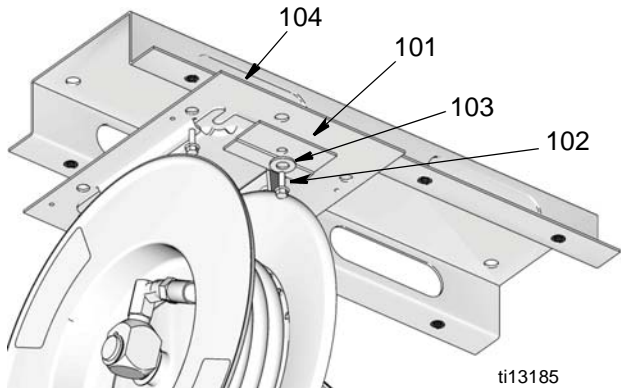

FIG. 14
- Remove capscrew (102), washer (103) and hold down plate (101). Then slide hose reel out of base plate (104) (FIG. 14).